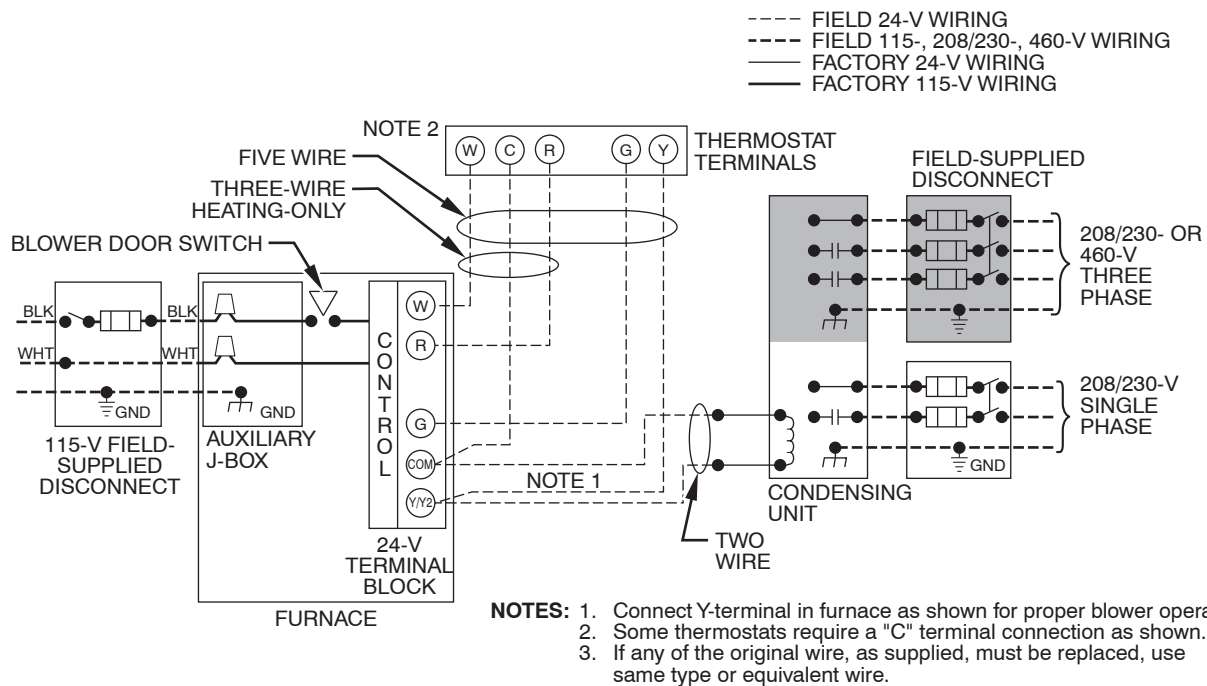

Fig. 25 - Heating and Cooling Application Wiring Diagram with 1-Stage Thermostat
See Fig. 25 for field wiring diagram showing typical field 115-v wiring. Check all factory and field electrical connections for tightness.
5. Connect line voltage leads as shown in Fig. 25.
12. Complete electrical box wiring and installation. Connect line voltage leads as shown in Fig. 25. Use best practices (NEC in U.S. and CSA C22.1 in Canada) for wire bushings, strain relief, etc.